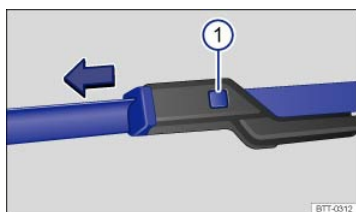

Fig. 160 Changing the windshield wiper blades.
- With one hand, press and hold the release button ⇒ Fig. 160 .